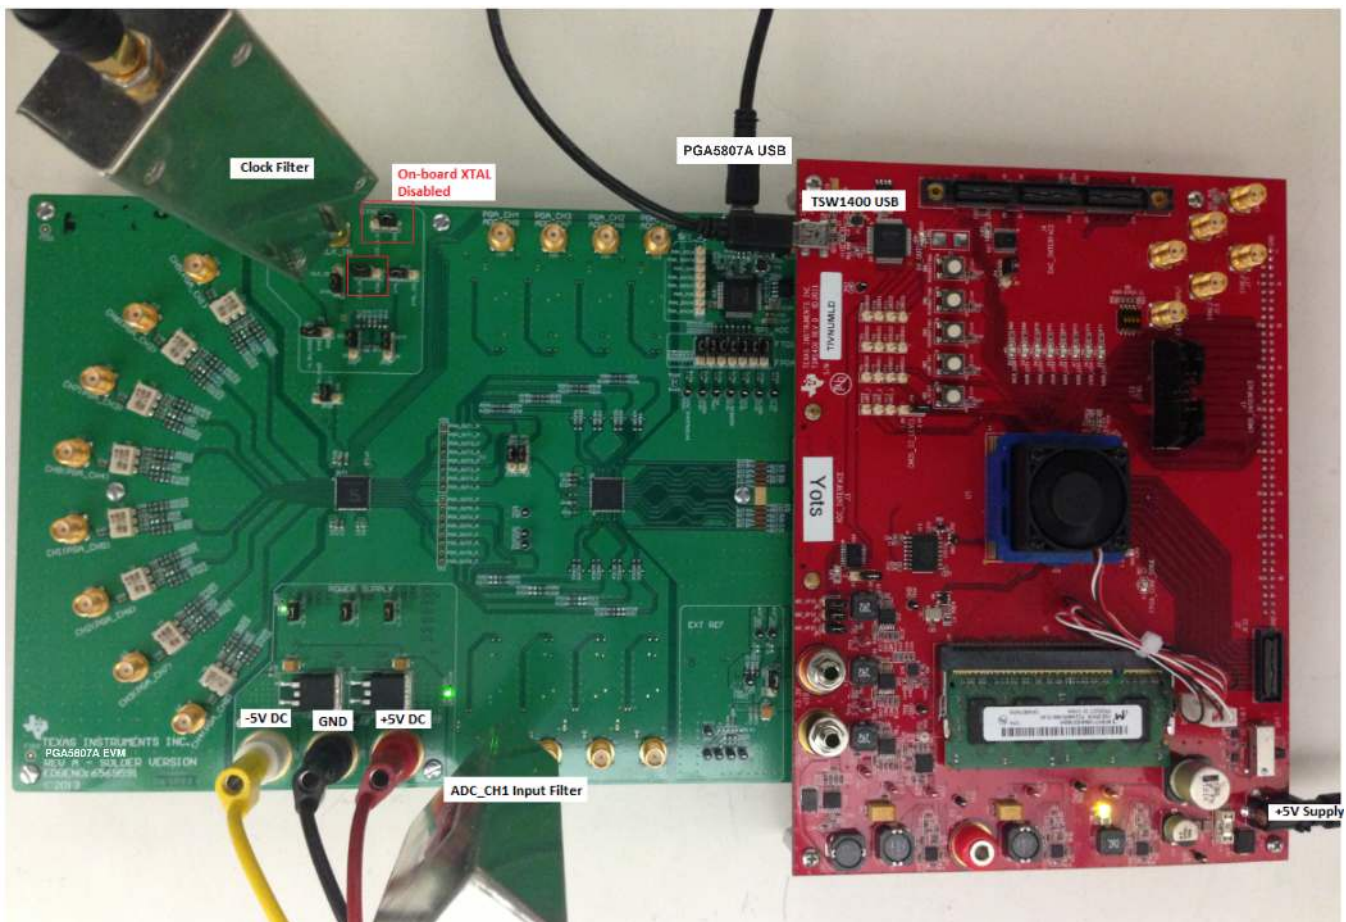

Figure 40. PGA5807A EVM Setup for ADS5296A Only Testing
2. With the setup established in Figure 40, perform the following steps: